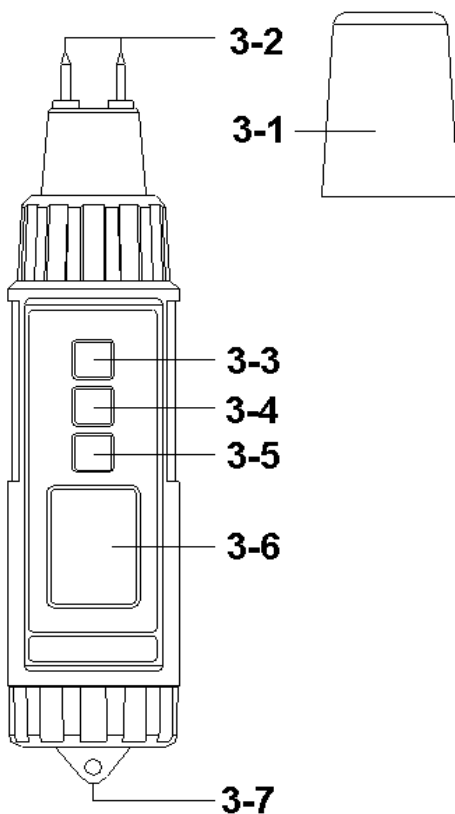

Fig. 1
(3-3, Fig. 1) momentarily.
** Press the " Power Button " (3-3, Fig. 1)
2) Remove the " Protection cover " (3-1, Fig. 1) away
3) Press the " Material button " (3-5, Fig. 1) to select the
- * During the measurement, press the " Hold Button " (3-4, Fig. 1) momentarily to hold the measured value. The LCD will show a " HOLD " symbol.
- * To change the batteries, open (rotate clockwise direction) the " Battery Cover " (3-7, Fig. 1).
- * Make sure the " Battery cover " (3-7, Fig 1) is secured after changing the batteries.